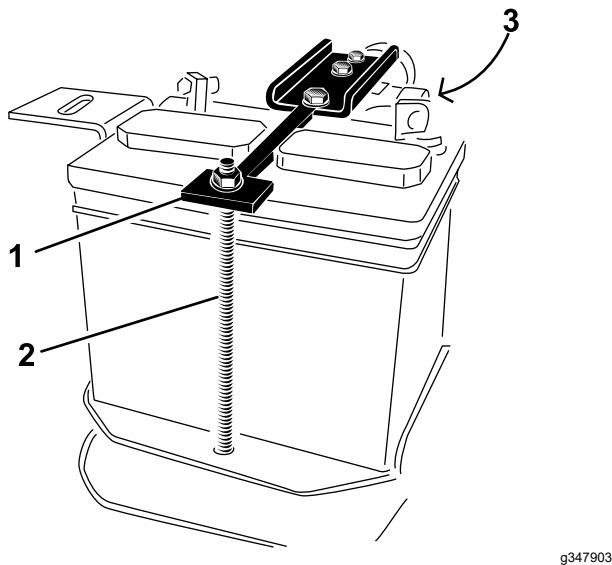

Figure 4
1. Mounting bolt (2)
4. Remove the 2 nuts holding the battery hold down straps in place and set the nuts, washers and bolt tube off to the side (Figure 4).